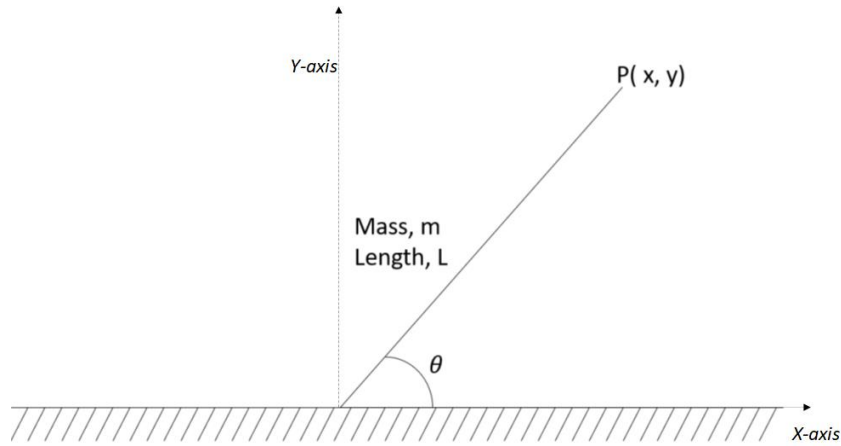

Fig.2
15. Calculate the expression for angular acceleration of the point P in Fig.2. Let the applied torque be equal to zero. Consider the moment of inertia of a uniform rod for calculations. (6)